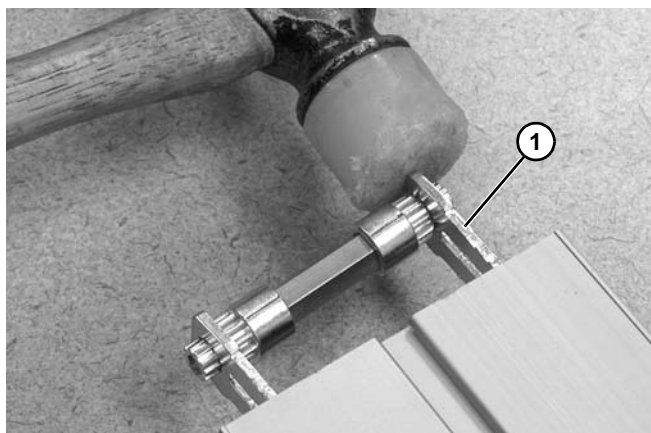
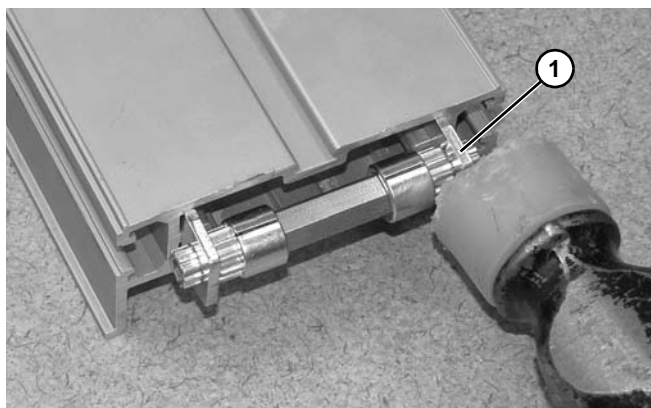

Figure 150
Figure 151
8. Tap alternating retaining plates (**Figure 150, item 1**) and (**Figure 151, item 1**) with a hammer until fully assembled onto conveyor frame.